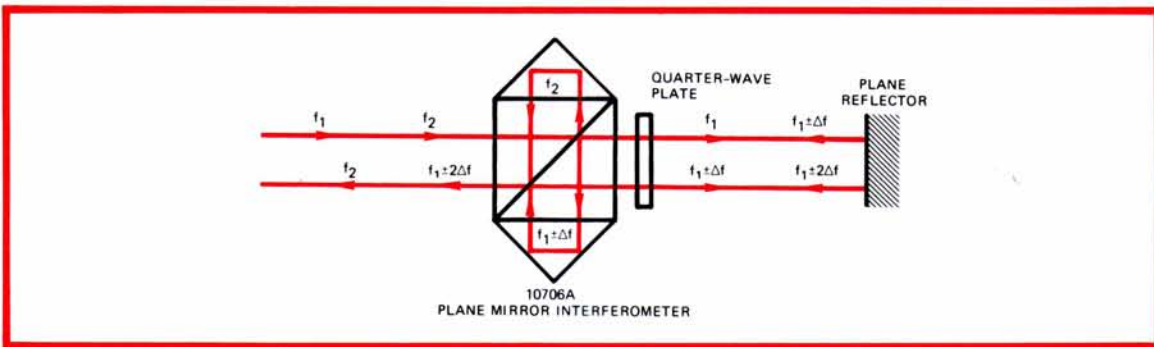

Figure 2-16. Plane Mirror Interferometer Laser Beam Path
2.16 PLANE MIRROR INTERFEROMETER LASER BEAM PATH (Figure 2-16). The beam entering the interferometer is split into  $f_1$  and  $f_2$ , with  $f_2$  returning to the receiver after retro-reflection by the reference cube corner. As in the linear interferometer,  $f_1$  is transmitted out to the plane retroreflector and is reflected back on itself (Figure 2-16). The quarter-waveplate causes the polarization of the return frequency to be rotated through 90 degrees so that  $f_1 \pm \Delta f$  is reflected out a second time where it is Doppler shifted again. The polarization of  $f_1 \pm 2\Delta f$  is rotated again through 90 degrees so it is now transmitted back of the receiver. Resolution doubling is inherent because of the double Doppler shift.